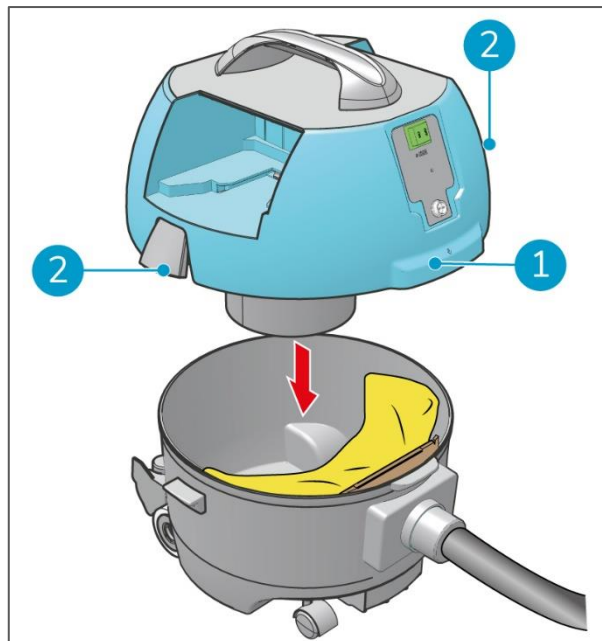

Figure 14
13. Place the head (Figure 14, pos 1) onto the can.
14. Fasten the latches (Figure 14, pos 2).